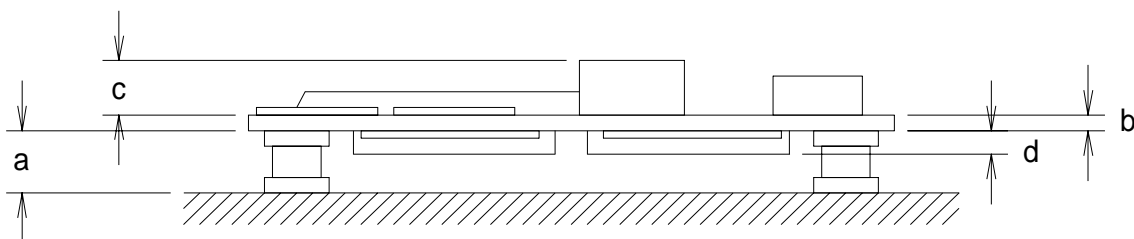

Figure 12: Mounting Heights (not to scale)
- Free mounting height under module: a – d = 2.6 mm (see Figure 12)